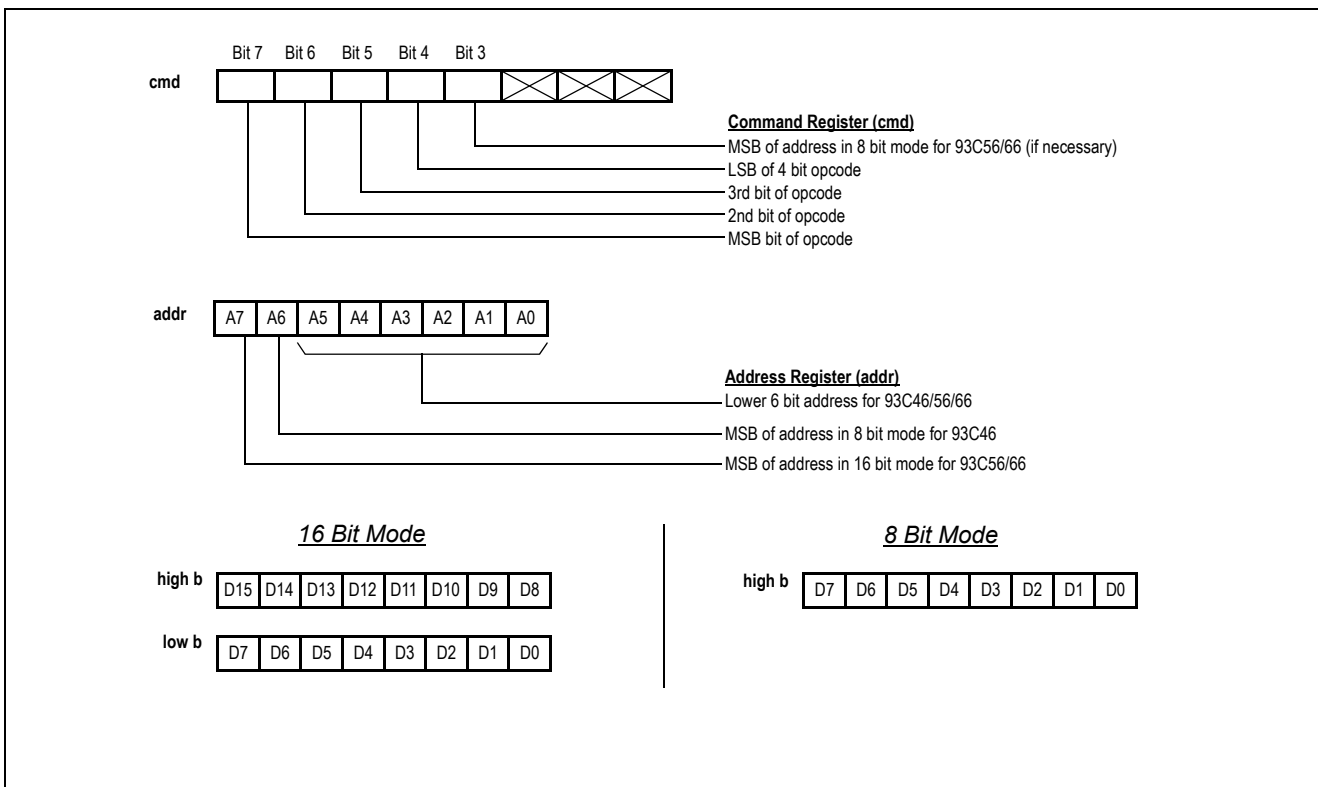

Figure 4. 'CMD', 'ADDR' data byte definition
1. Load the register defined as 'cmd' with the 93CX6 Command Opcode (only the four upper bits are used in this register; see Figure 4).